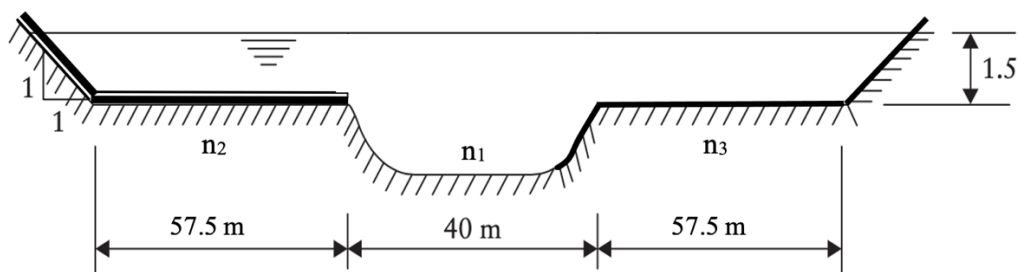

Figure 1
5. (a). Consider the compound channel given in **Figure 1** as a composite section. The Manning's roughness coefficients are given as  $n_1$ ,  $n_2$  and  $n_3$  where the channel is smooth earth; naturally made channel with tall grasses and reeds; and stones and weeds respectively. The channel bed slope for the whole channel is 0.5% and consider all side slopes as 1:1.